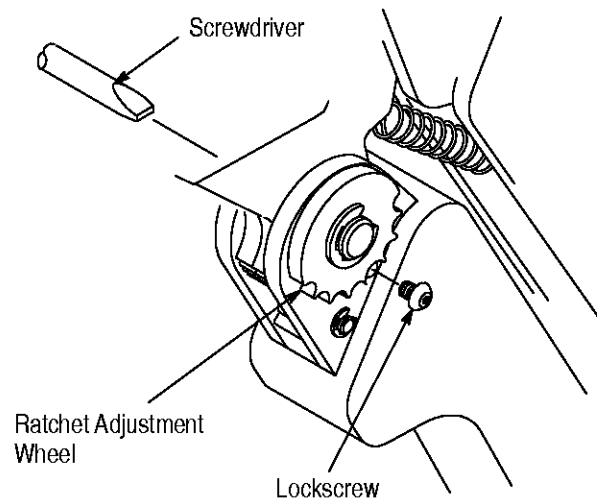

Figure 5
5.3. Ratchet Adjustment (Figure 5)